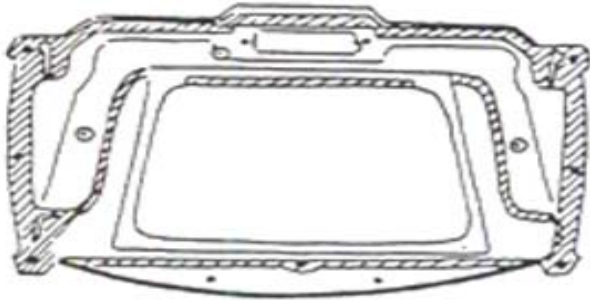

Fig. 6 Bottom
- Cement all the channels, flanges and mating surfaces indicated in **Fig. 6**. Keep the cement off the thermostat cable.